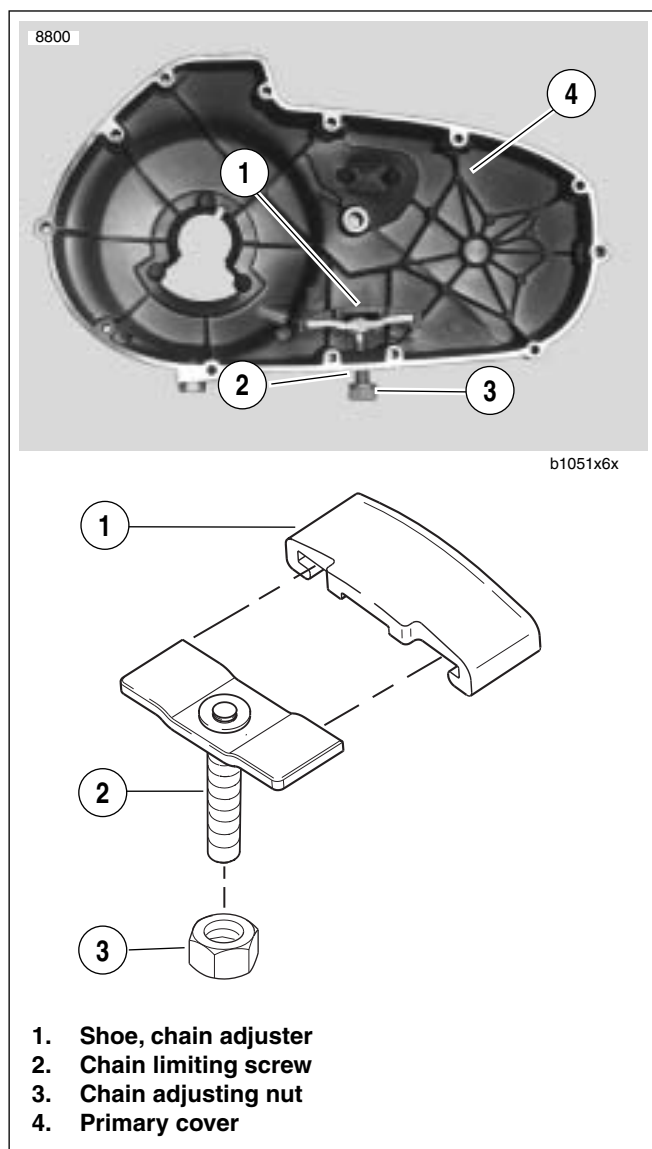

Figure 6-4. Primary Chain Adjuster
1. See Figure 6-4. Remove locknut (3) from adjuster screw (2). Turn adjuster screw out of threaded boss in primary cover (4).
3. See Figure 6-4. Inspect primary chain adjuster shoe (1). If badly worn or damaged, it must be replaced.
5. Position adjuster inside primary cover (4) with closed side of shoe against cover. Thread adjuster screw (2) all the way into tapped boss at bottom of primary cover.
6. At outside of cover, thread locknut (3) onto adjuster screw with nylon sealing surface toward cover. A 1/4-inch Allen Wrench may be inserted into end of adjuster screw